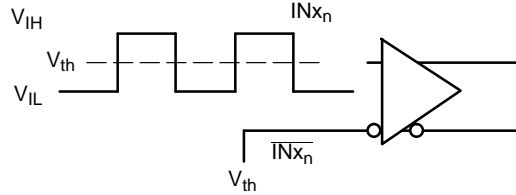
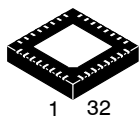

Figure 5. Differential Input Driven Single-Ended
**Figure 16. Typical Termination for LVPECL Output Driver and Device Evaluation**
## DIFFERENTIAL INPUT DRIVEN SINGLE-ENDED (Note 6) (Figures 5 and 6)
5. Outputs evaluated with 50  $\Omega$  resistors to  $V_{TT} = V_{CC} - 2.0$  V for proper operation (See Figure 16).
8. Differential 50% duty cycle at  $V_{INPPmin}$  clock source. Outputs evaluated with 50  $\Omega$  resistors to  $V_{TT} = V_{CC} - 2.0$  V (See Figure 16). Input crosspoint to output crosspoint for INxn/INxn to Qx, Qx; 50% input to output crosspoint for SELx to Qx, Qx. See Figures 5, 10 and 11.